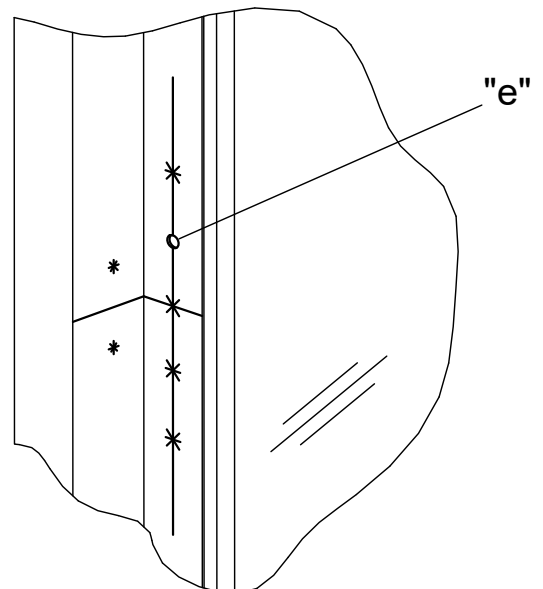

Fig. 11
5. Drill one pilot hole "e" **straight and level** thru door at location shown. See Fig. 11.